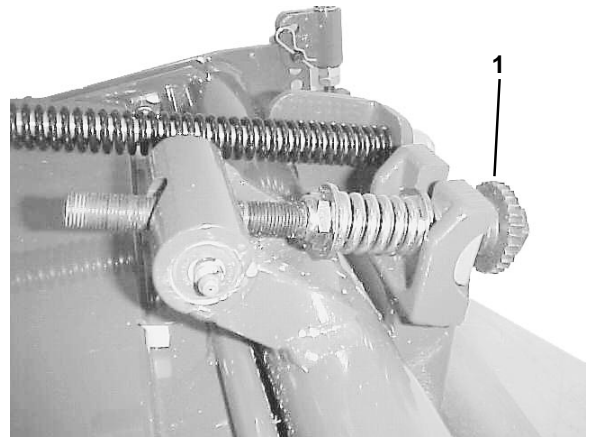

Figure 28
1. Loosen reel-to-bedknife contact by turning the bedknife adjusting knob (Fig. 28) counter-clockwise until no contact exists.